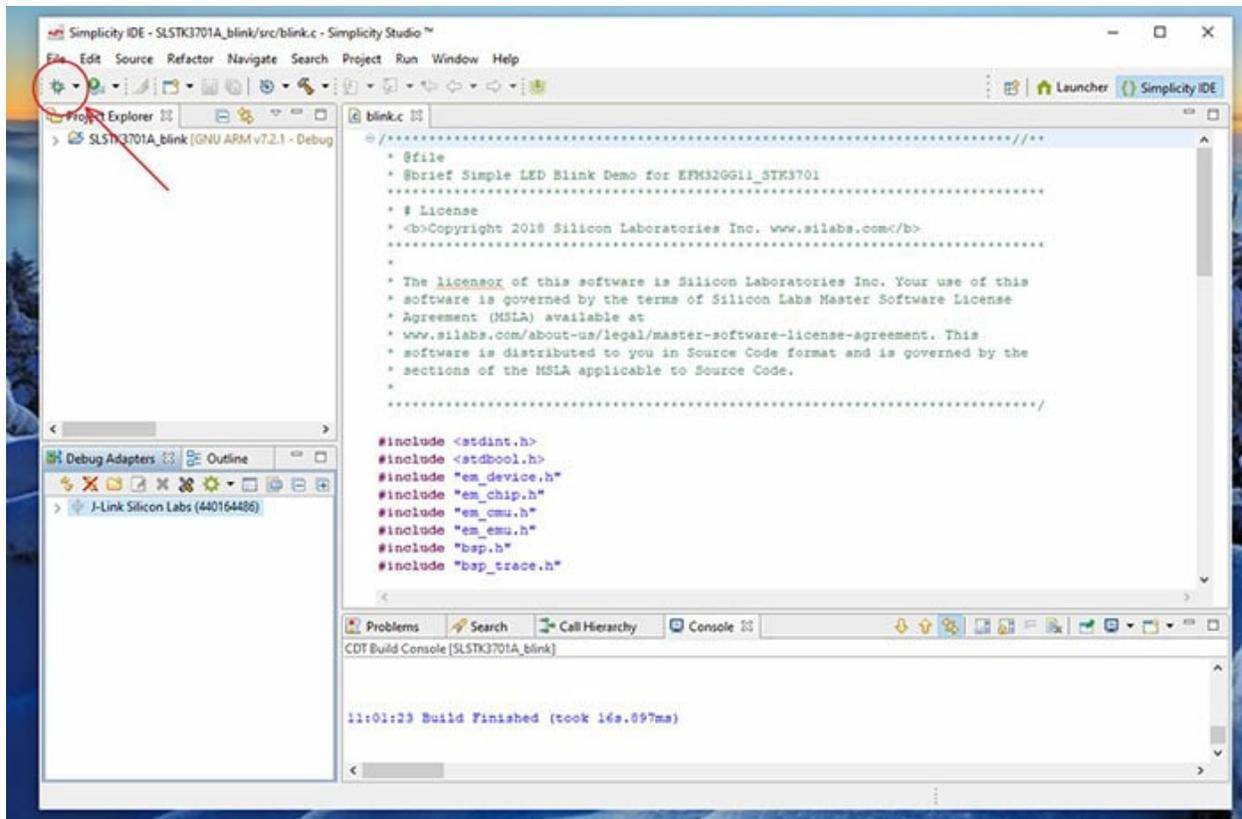

Figure 8: Debug the project. (Source: Simplicity Studio)
14. Debug the project using the “bug icon” (Figure 8).